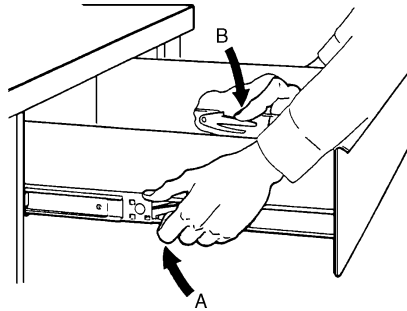

Figure 4. Drawer Removal
4. To remove a drawer (*Figure 4.*), pull the drawer out till it stops. Notice the locking levers located inside the track that is attached to the drawer. Lift the left lever (A) while pressing down on the right lever (B). Pull drawer clear of the slides.